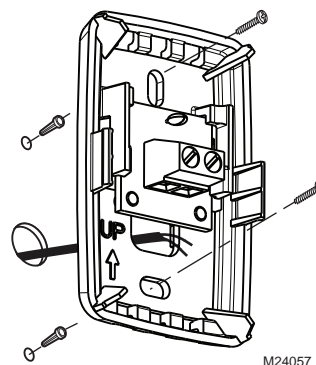

Fig. 76. Mount wallplate to wall.
5. Place wallplate over anchors, insert and tighten mounting screws (see Fig. 76).